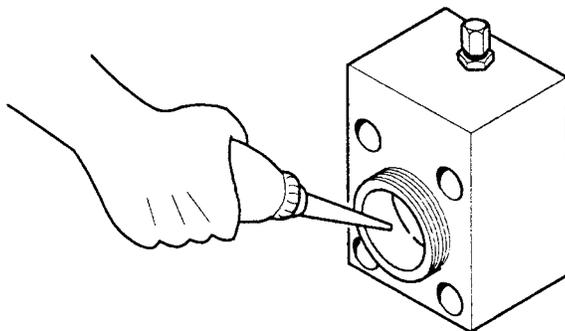

Figure 19. Lubricating Seal in Back Cap.
6. Apply about 1.7 ounces (50cc) of hydraulic oil into the back cap for lubrication of the seals as shown in Figure 19.